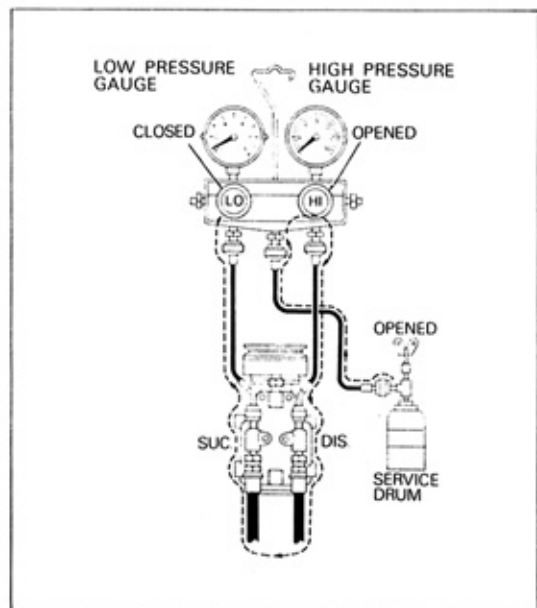

Fig. 90
5. Open the high pressure hand valve to charge the refrigerant vapor into the system. See Fig. 90.